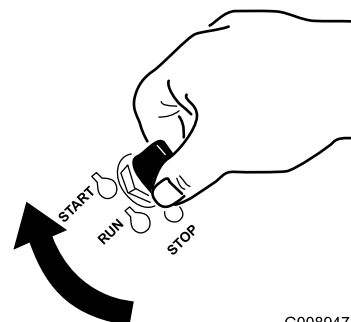

Figure 9
1. Turn the ignition key to the START position (Figure 9).